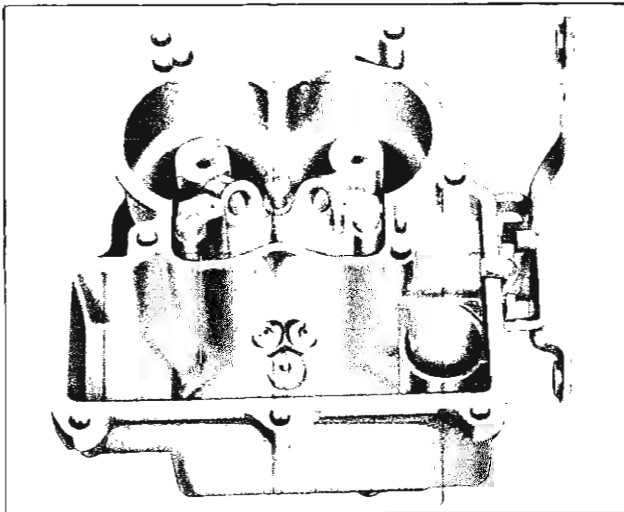

Fig. 35—Bowl Assembly Parts Location
5. Install main metering jets and power valve gasket and power valve. Figure 35 shows the bowl and throttle body at this stage of assembly.